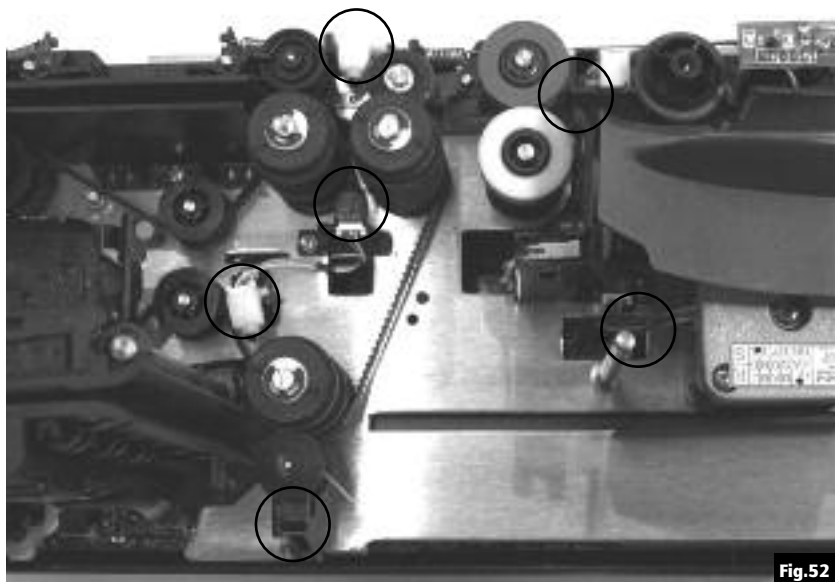

Fig.50
2. Remove the print cartridge by pushing down the plastic retainer (Fig.50).